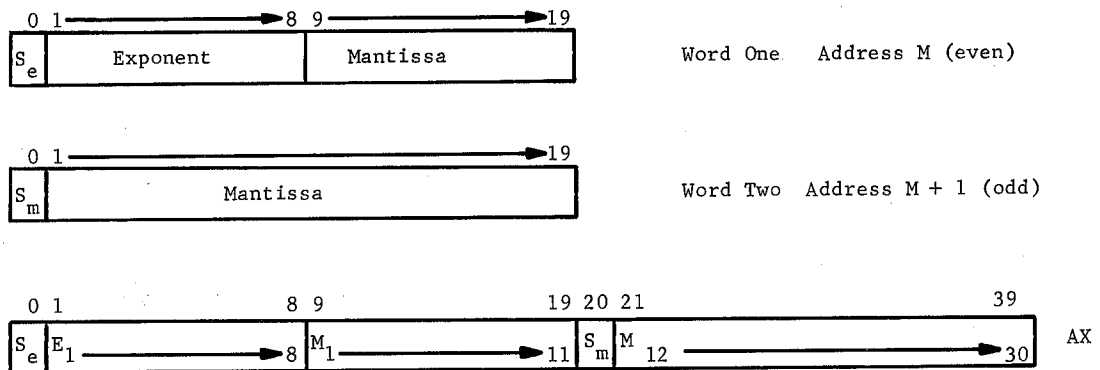

Figure 5. Floating-Point Data Word Format
1. Exponent. As used with the AAU, the exponent (or characteristic) is the 9 most-significant bits (8 numeric bits and a sign bit) of a double word (see Figure 5). These bits designate to what power of two the mantissa portion of the word must be raised.
2. Mantissa. In the AAU, the mantissa is the 30 least-significant bits of a double word. The radix point (see Radix Point described below) for these 30 bits is assumed to be to the left of the most significant of the 30 bits. Thus, the mantissa is fractional in value (see Figure 5).
Floating-point numbers are stored in memory and in the AX-Register in the following forms and formats, as shown in Figure 5. The binary point is assumed to be before the first bit (bit 9) of the mantissa. This format produces a binary number with a 30-bit mantissa and a binary characteristic range of -256 to +255. This is approximately equal to a decimal number with a 9-digit mantissa and a decimal range of 10^{-77} to 10^{+77} . The fact that two words are used allows one of the sign positions to be applied to the exponent.